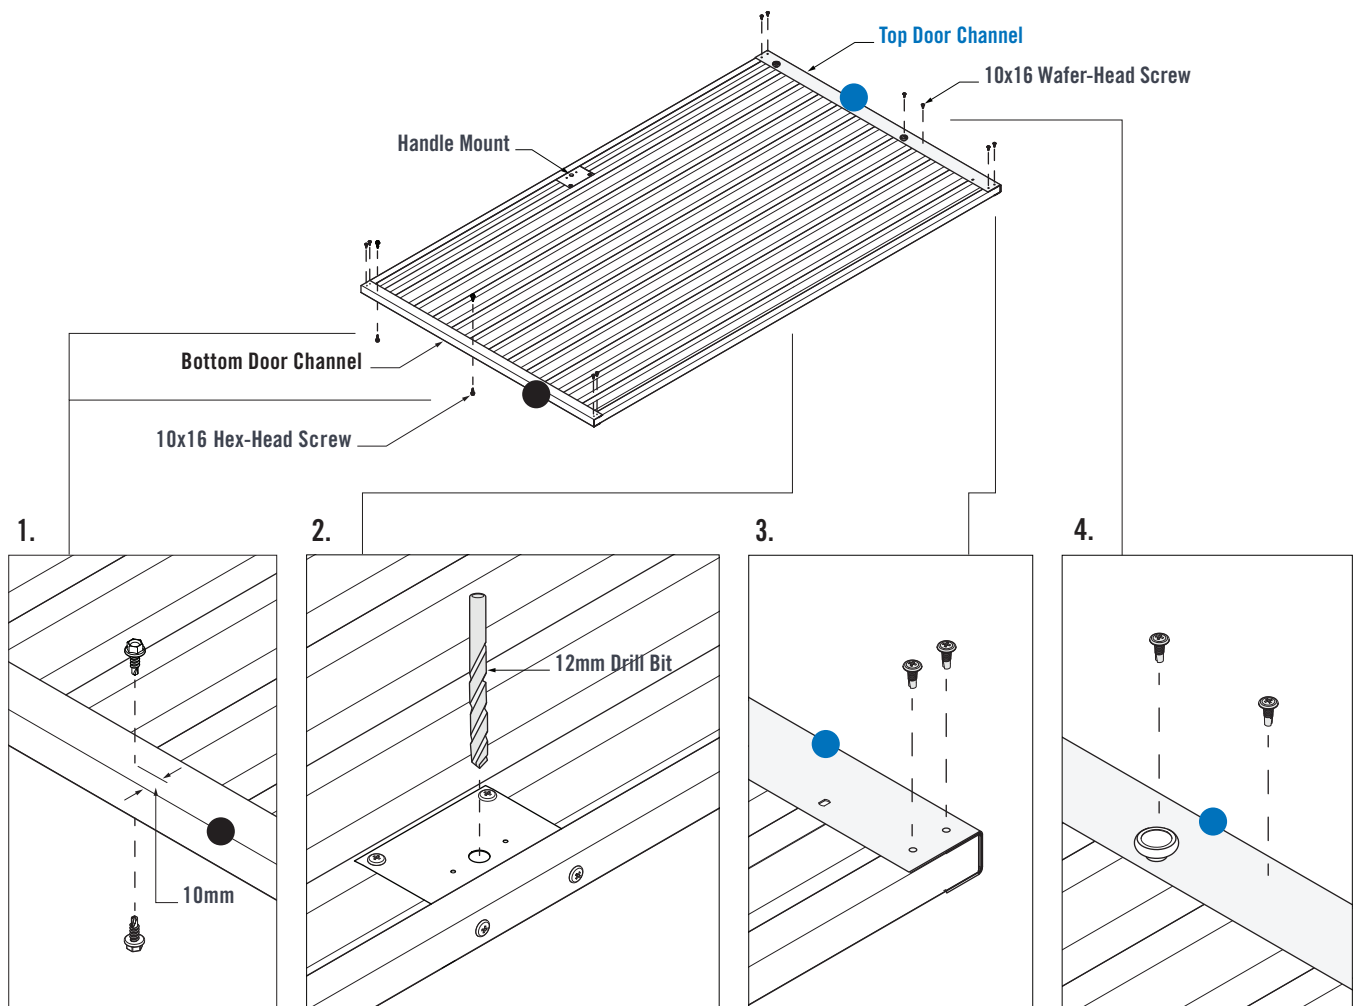

FIGURE 5.6
1. Fasten a 10x16 Hex-Head Screw into the mid-point of the Bottom Door Channel. Ensure the screw is fastened approximately 10mm from the bottom face of the Channel. Fasten a 10x16 Hex-Head Screw near the Handle Mount end of the Bottom Door Channel. Flip over the Door Assembly so that the underside is now facing up. Fasten two more 10x16 Hex-Head Screws in the same manner on the opposite side of the Bottom Door Channel (Figure 5.6).
2. Using the holes in the Handle Mounts as a guide, drill a  $\varnothing 3.5$ mm pilot hole, then  $\varnothing 12$ mm hole through the Wall Sheet (Figure 5.6).
3. Fasten two 10x16 Wafer-Head Screws through pilot holes in the Top and Bottom Door Channels and into the Vertical Door Channels at all four corners (Figure 5.6).
4. Fasten a 10x16 Wafer-Head Screw through the Top Door Channel and into the two Sheet Crests on both sides of the Door Wheel (Figure 5.6).